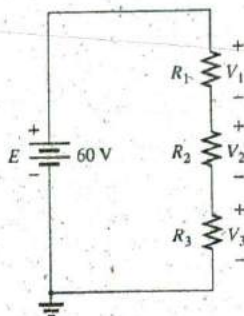

FIG. 5.116
- *33. Find the voltage across each resistor in Fig. 5.116 if $R_1 = 2R_3$ and $R_2 = 7R_3$.